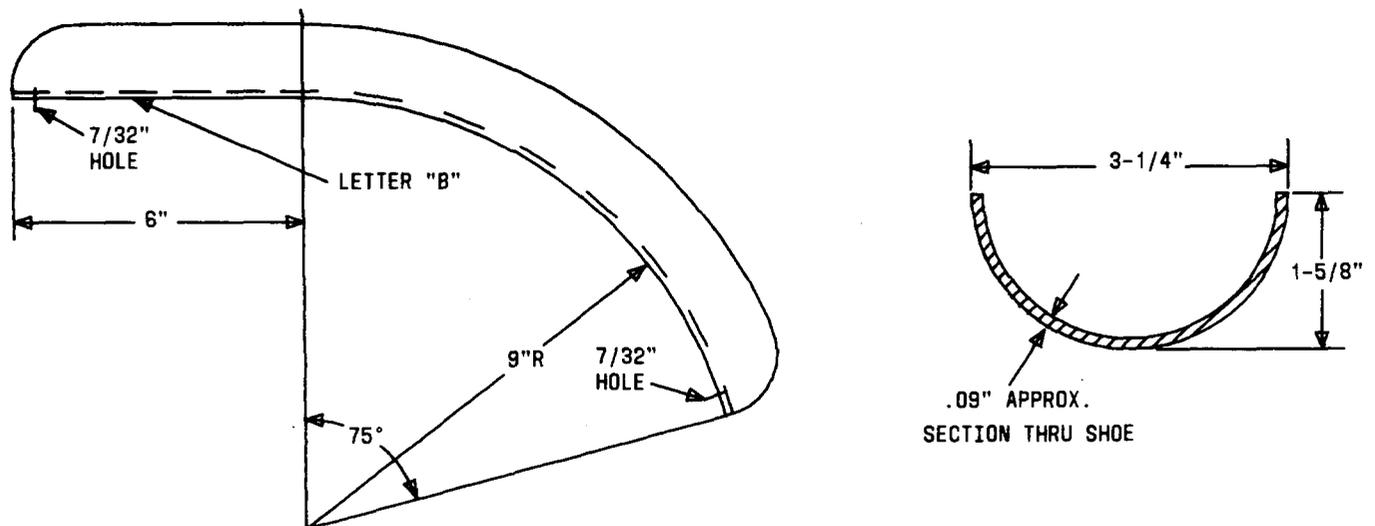

Fig. 1—B Cable Bending Shoe
2.01 The B cable bending shoe consists of a trough-like steel section bent in a 75-degree arc with one end extended as shown in Fig. 1.